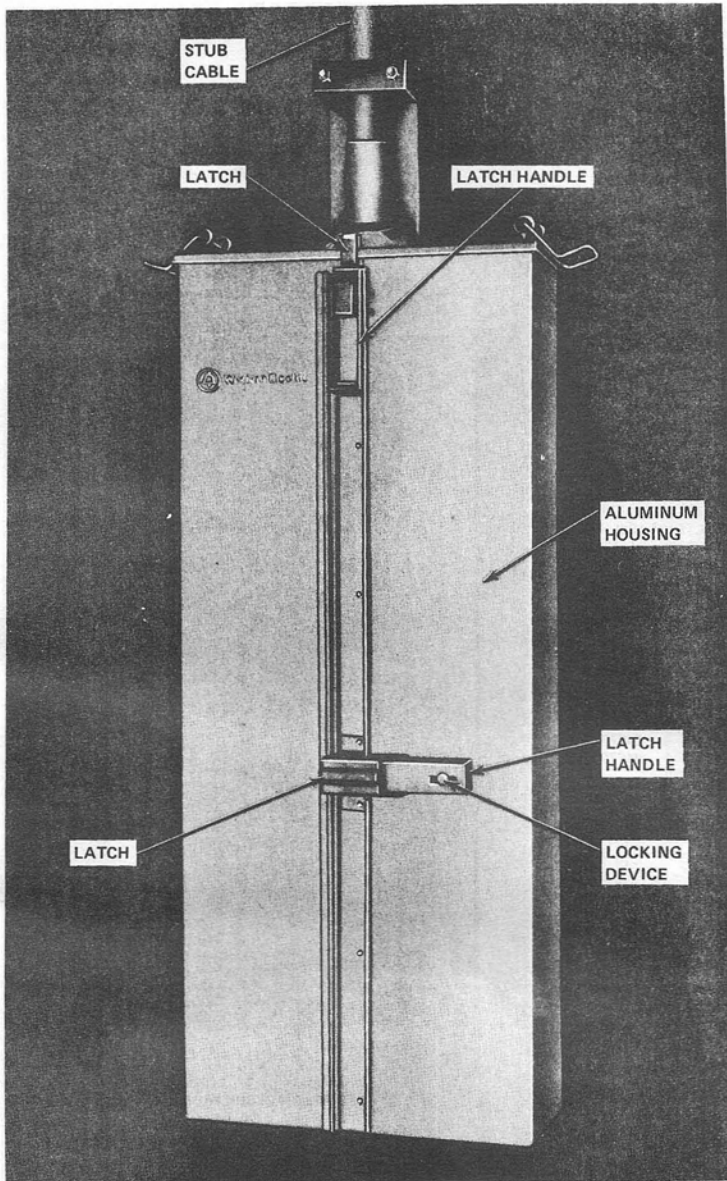

Fig. 1—BK1-600 Cable Terminal
2.02 Figures 1 through 4 show typical features of the B-type cable terminals.